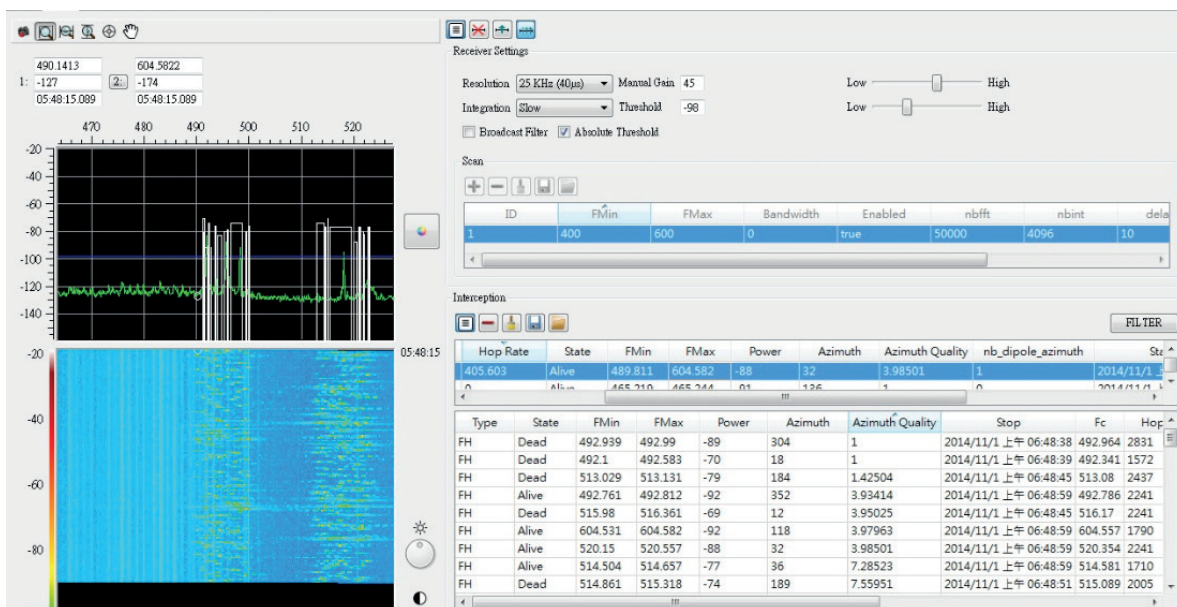

Figure 4: Customized GUI Interface
The Customer required some software services to enhance the application. VadaTech provided various levels of software support including GUI and database development support for the interception and direction finding data. The end solution included robust algorithms to provide high end sensitivity and resolution. Figure 4 below shows the customized GUI interface developed with the customer.
- **The graphical interface** (Figure 4 on the left) illustrated an example spectrum and waterfall. The user was able to see the 200MHz bandwidth on a spectrum on a signal strength/ Frequency over time interface. The spectrum automatically highlighted the Frequency of Interest that was selected in the interception list.
- **The control interface** (Figure 4 on the top right) allowed the user to configure the following parameters:
- On the bottom right **the result interface** (Figure 4 on the bottom right) allowed the user to visualize and filter the intercepted frequency: